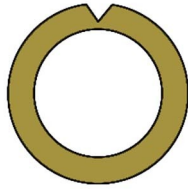

Figure 1
- **Step 1** Cut a "V" notch in the outer diameter of the TB-7 ring, as shown in Fig. 1.